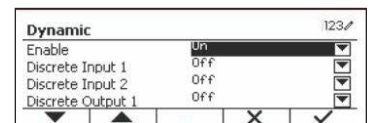

Figure 87
5. Select the list item and press the softkey corresponding to the  icon to change the setting as desired. (See Figure 87)